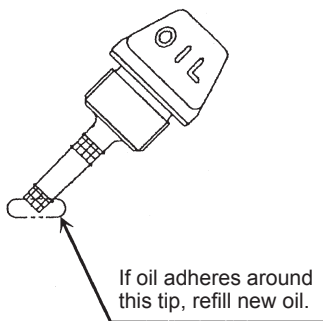
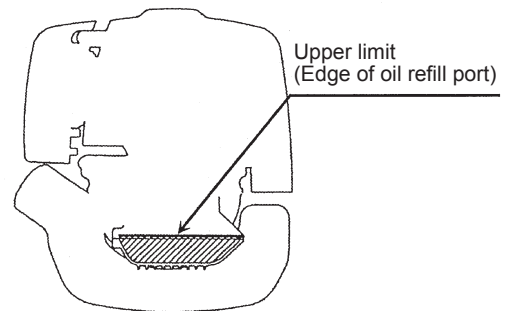

Fig.1
Fig.2
- While keeping the engine level, remove the oil gauge, and confirm that the oil is filled within the upper and lower limit marks. When the oil is in short in such a way that the oil gauge touches the oil only by its tip, in particular with the oil gauge remaining inserted in the crankcase without screwing-in (Fig. 1), refill new oil near the port (Fig. 2).
(1) Keep the engine level, and detach the oil gauge.
(2) Fill oil up to the edge of the oil refill port. (Refer to Fig.2 of the preceding page).